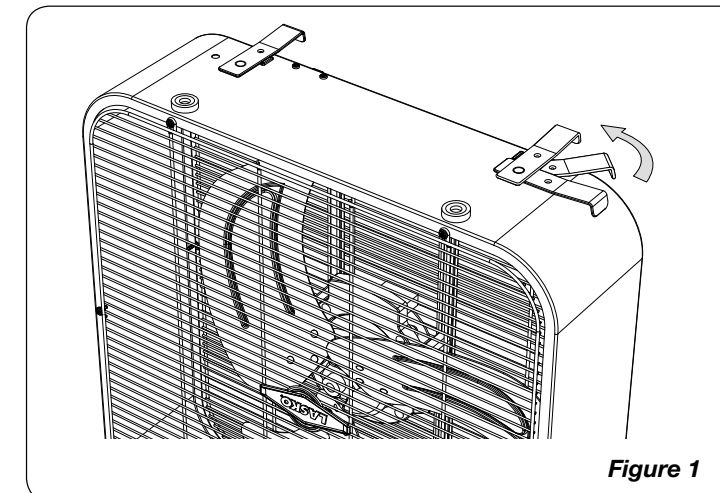

Figure 1
2. Rotate feet towards middle of the fan (*Figure 1*). Do not operate if feet aren't in correct position.